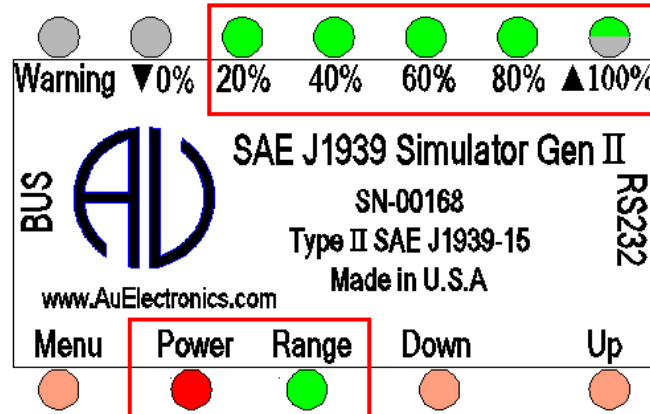

Figure 3-7 Power, Range, 20%, 40%, 60%, 80% are constant on, “▲100%” LED blinks, indicating data reaches 100%
- When control step value equals to 100%, the 20%, 40%, 60%, and 80% LED will be constant on. ▲100% LED blinks, as shown in Figure 3-7.